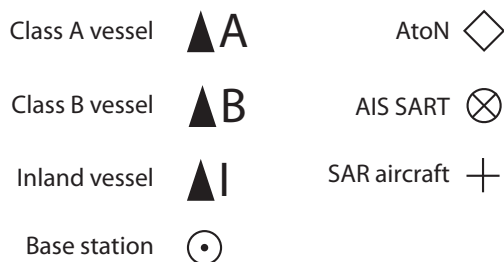

Figure 6 Vessel type icons
- Type of vessel. This column shows the type of vessel using the icons in Figure 6